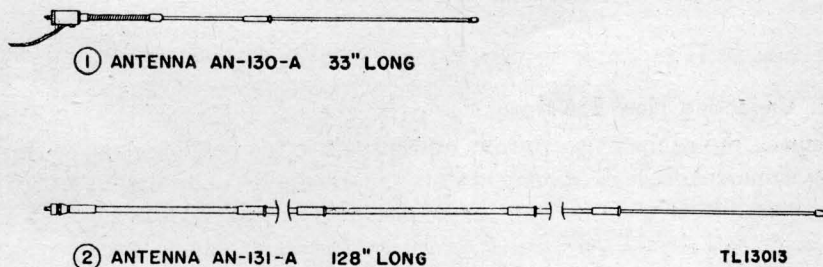

Figure 8. Outline dimensional drawing showing comparison between Antenna AN-130-A and Antenna AN-131-A.
Antenna AN-130-A is a two-section unit which is 33 inches long when assembled. (See fig. 8①.) The sections are held together by a kinkless, stainless steel cable which eliminates the possibility of losing a section and permits rapid assembly of the antenna. The bakelite case at the base of the antenna houses an antenna-matching circuit which consists of a loading coil and a capacitor. The flexible lead with a spade lug, attached to the bakelite shell, must be connected to the binding post marked GROUND FOR SHORT ANT. of Radio Receiver and Transmitter BC-1000-A. This connection is necessary to complete the antenna-matching circuit. A threaded stud is provided at the base of the antenna to attach it to the antenna terminal of the set. A flexible section near the base of the antenna allows the antenna to be bent at an angle so that it can always be adjusted to a vertical position. When not in use, Antenna AN-130-A is carried in Bag BG-150-A.
Antenna AN-131-A is a lightweight, tapered, flexible, eight-section antenna which is 10 feet, 8 inches long when assembled. (See fig. 8②.) The eight sections are held together by a kinkless, stainless steel cable which runs the entire length of the antenna and which is under spring tension. This cable not only permits rapid assembly but also eliminates any possibility of losing a section. A threaded stud is provided at the base of the antenna to attach the antenna to the antenna terminal of the set. The GROUND FOR SHORT ANT. binding post is not used with Antenna AN-131-A, since no antenna-matching circuit is required for this antenna. Antenna AN-131-A is designed for use in unobstructed areas only. When not in use, Antenna AN-131-A is carried in Bag BG-150-A.